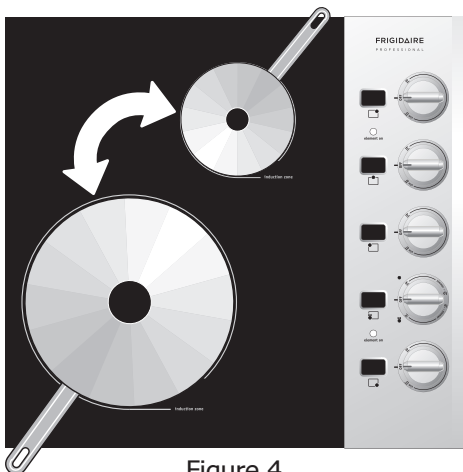

Figure 4
**POWER SHARING TIPS:** Remember to set the power level for the food item you wish to maintain last (See Fig. 4).